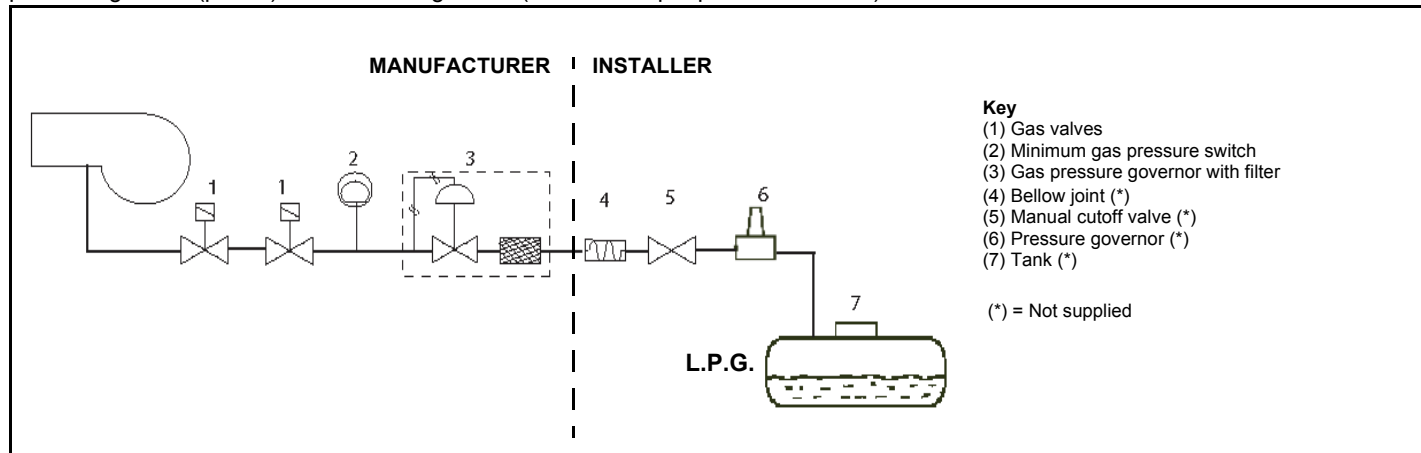

Fig. 3
**ATTENTION:** once the gas train is mounted according to the diagram on Fig. 3, the gas proving test must be performed, according to the procedure set by the laws in force.